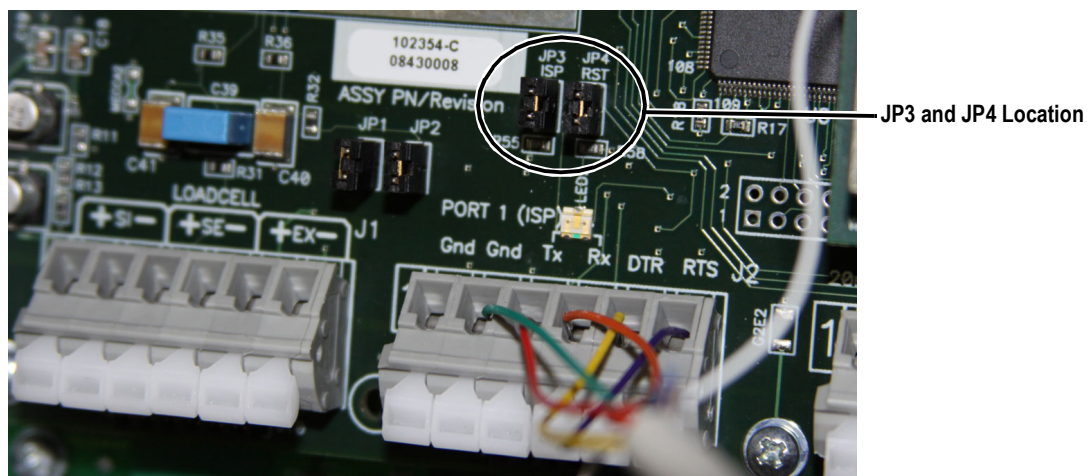

Figure 9-4. Jumpers Installed on JP3 and JP4
10. When complete, remove the jumpers shown in Figure 9-4 on page 80 and power up the indicator.